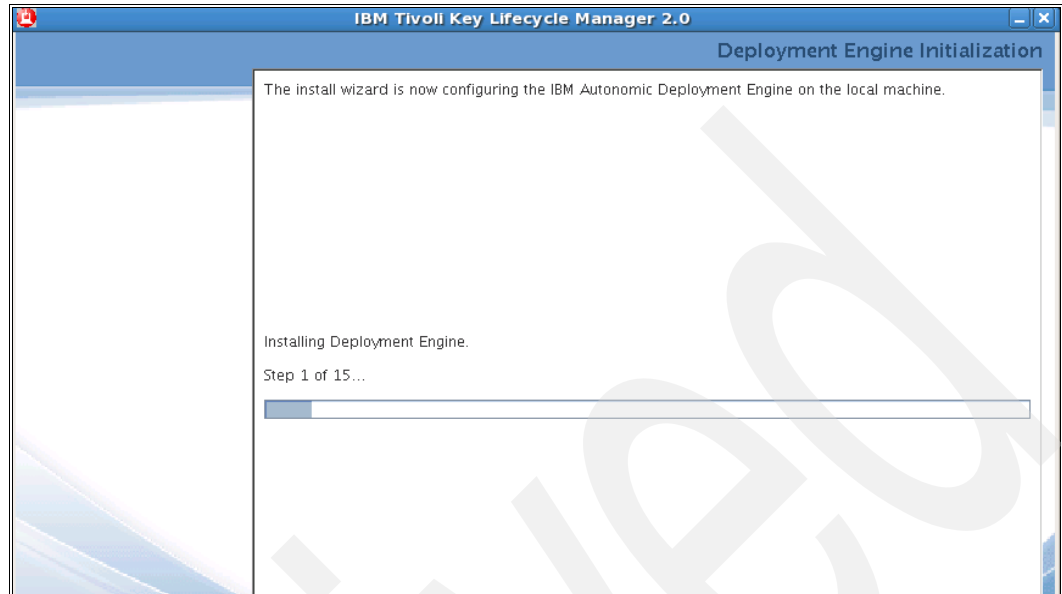

Figure 7-12 TKLM v2 installation steps
15. The next screen shows progress of the installation (Figure 7-12). Do not touch the keyboard or mouse during this period.